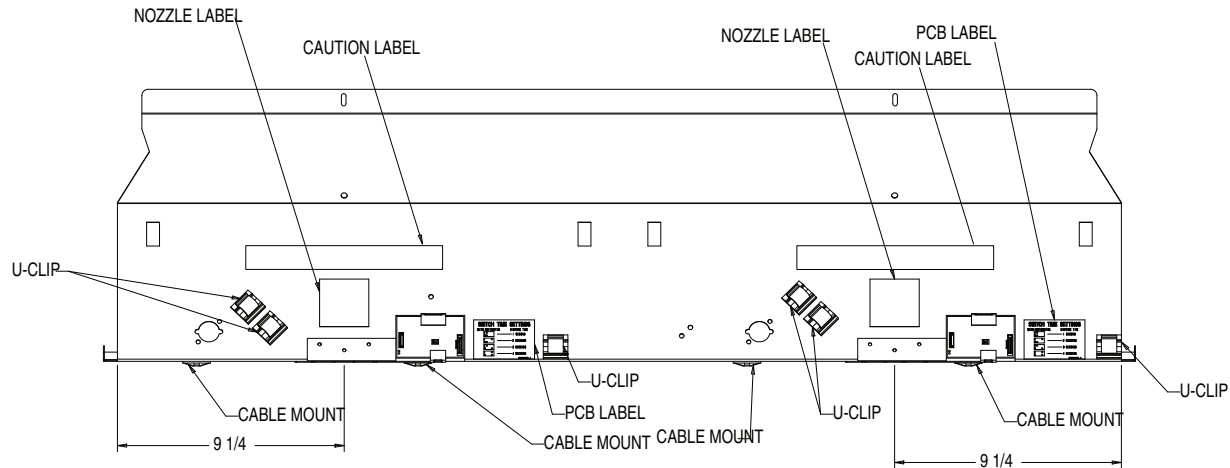

Figure 1. ED 300 Layout
- Locate center mounting lines on the white aluminum electrical box cover for each nozzle bracket (center mounting lines for 300 units is 9 1/4" - see Figure 1). Draw vertical line approximately 1" long, starting from bottom of electrical box cover for each nozzle bracket.
- Apply 'nozzle installation' label directly above nozzle bracket, see Figure 1. Apply new 'CAUTION' labels directly above the nozzle label on each side of electrical box. Apply 'Switch time settings' label to the right of control board at this time (see Figure 1).
14. Connect solenoid harnesses to the solenoid valves prior to installing solenoid valve assemblies onto machine (see Figure 1). Proceed with installing solenoid assemblies
NOTE: Disconnect power once the keypad operations have been successfully tested. Install U-clips to right side of control label to secure jumper slack. Secure any remaining harnesses under electrical box with cable mount and cable ties (see Figure 1 for recommended location of cable mounts).